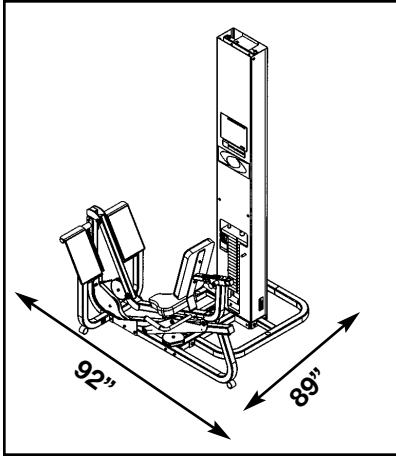

Figure 1
- D.** For Free Standing configurations, allow a minimum amount 92" x 89" for operating space. See Figure 1.